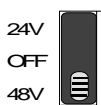

Figure 2-10. Power Selection Switch Set to 48V
10. Turn on the power supply by setting the power selection switch to 48V (Figure 2-10).